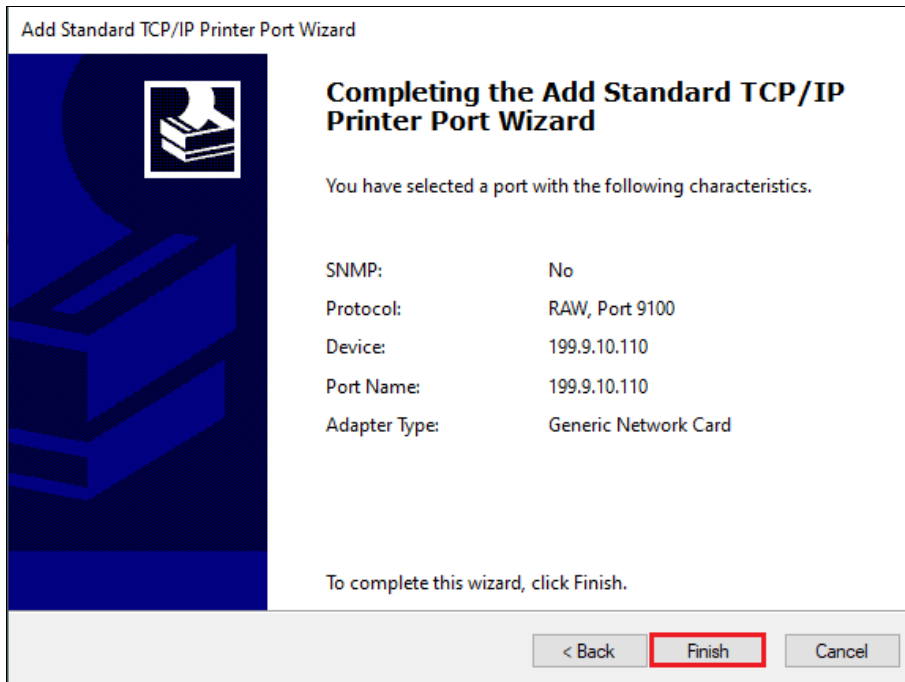

Figure 2-40 Complete adding Standard TCP/IP Printer Port
- 8. Windows will automatically detect the TCP/IP port. Click “Finish” to complete adding Standard TCP/IP Printer Port, as shown in Figure 2-40.